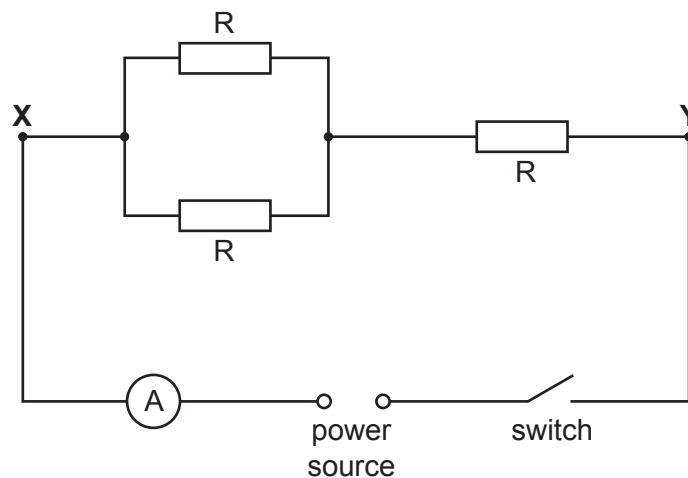

Fig. 3.1
- (vi) sufficient connecting leads to set up the circuit shown in Fig. 3.1, plus two additional leads.
1. The circuit is to be set up for candidates as shown in Fig. 3.1 with points **X** and **Y** labelled and with the additional leads and the voltmeter within easy reach.
3. The resistors should be labelled R and positioned as shown in Fig. 3.1.
Reconnect the resistors so that the circuit is as shown in Fig. 3.1. Do not connect the voltmeter.